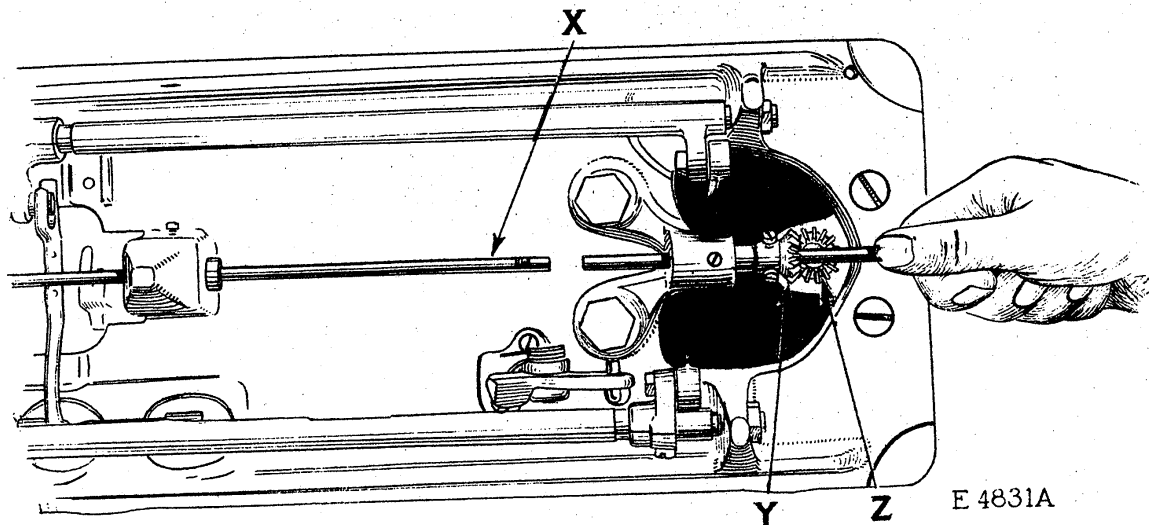

Fig.25. Removing and Replacing Sewing Hook Shaft
Before removing the hook shaft (X, Fig. 25) from the machine, the gears (Y and Z, Fig. 25) should be marked with chalk or red pencil on one of the teeth of the gear (Y) and the space of the gear (Z) in which the marked tooth meshes. This is important, as the gears may become dislodged when removing the hook shaft, and the marks will enable you to retain the original relative positions of the gears.
To remove the hook shaft, loosen the two set screws in the gear (Y, Fig. 25), then insert the new hook shaft into the gear
in Fig.25. By removing the old shaft in this manner, the relative positions of the gears (Y and Z) will not be disturbed. When placing the new shaft in position in the machine, see that the flat portion near one end of the shaft is at the right so that one of the set screws in the gear (Y, Fig.25) will bear against it when the gear is fastened in position on the shaft. The shaft should be set so that its left end is flush with the front (left hand) side of the body of the sewing hook.